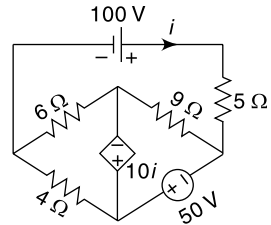

Fig. 14.25
14.54 Using mesh analysis technique determine the voltage across 4Ω resistor in the circuit shown in Fig. 14.25.